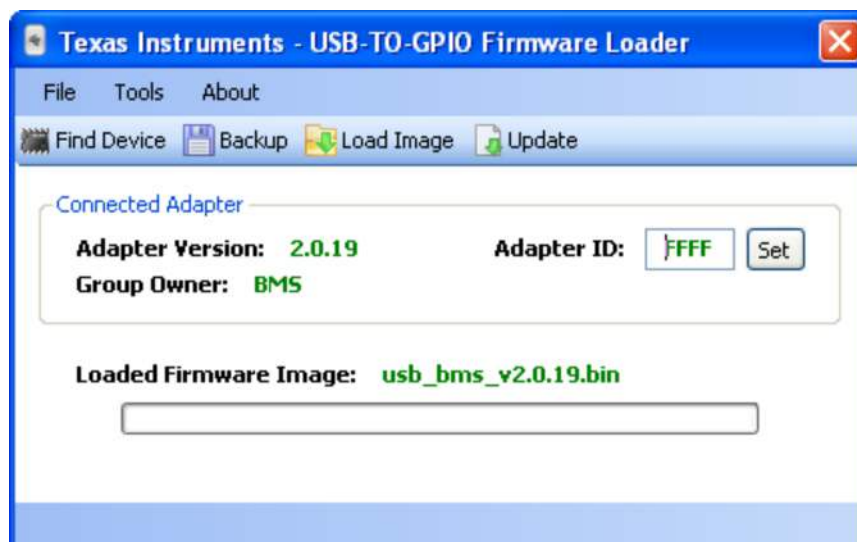

Figure 2. Successfully Updated TI USB Interface Adapter
10. After successful update, the window appears as is shown in Figure 2